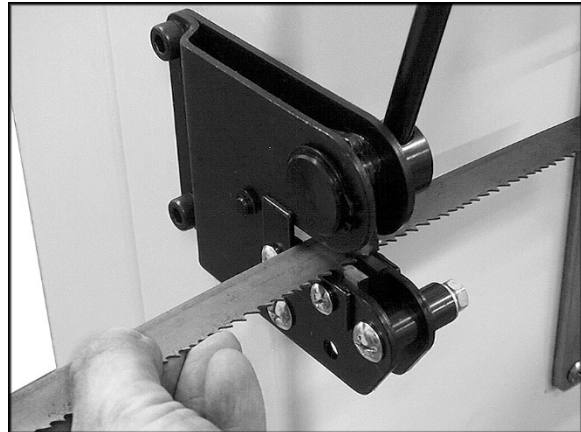

Figure 13-1
**Blade Shear:** Use the blade shear to cut the band apart or to cut the band to a specified length. The shear is capable of cutting saw blades from 0.118" to .625" (3mm to 16mm) in width and 0.025" to 0.035" (0.63mm to 0.89mm) in thickness. To use the blade shear, raise the handle, insert the blade perpendicular to the cutting knife, and make the cut (see Figure 13-1).